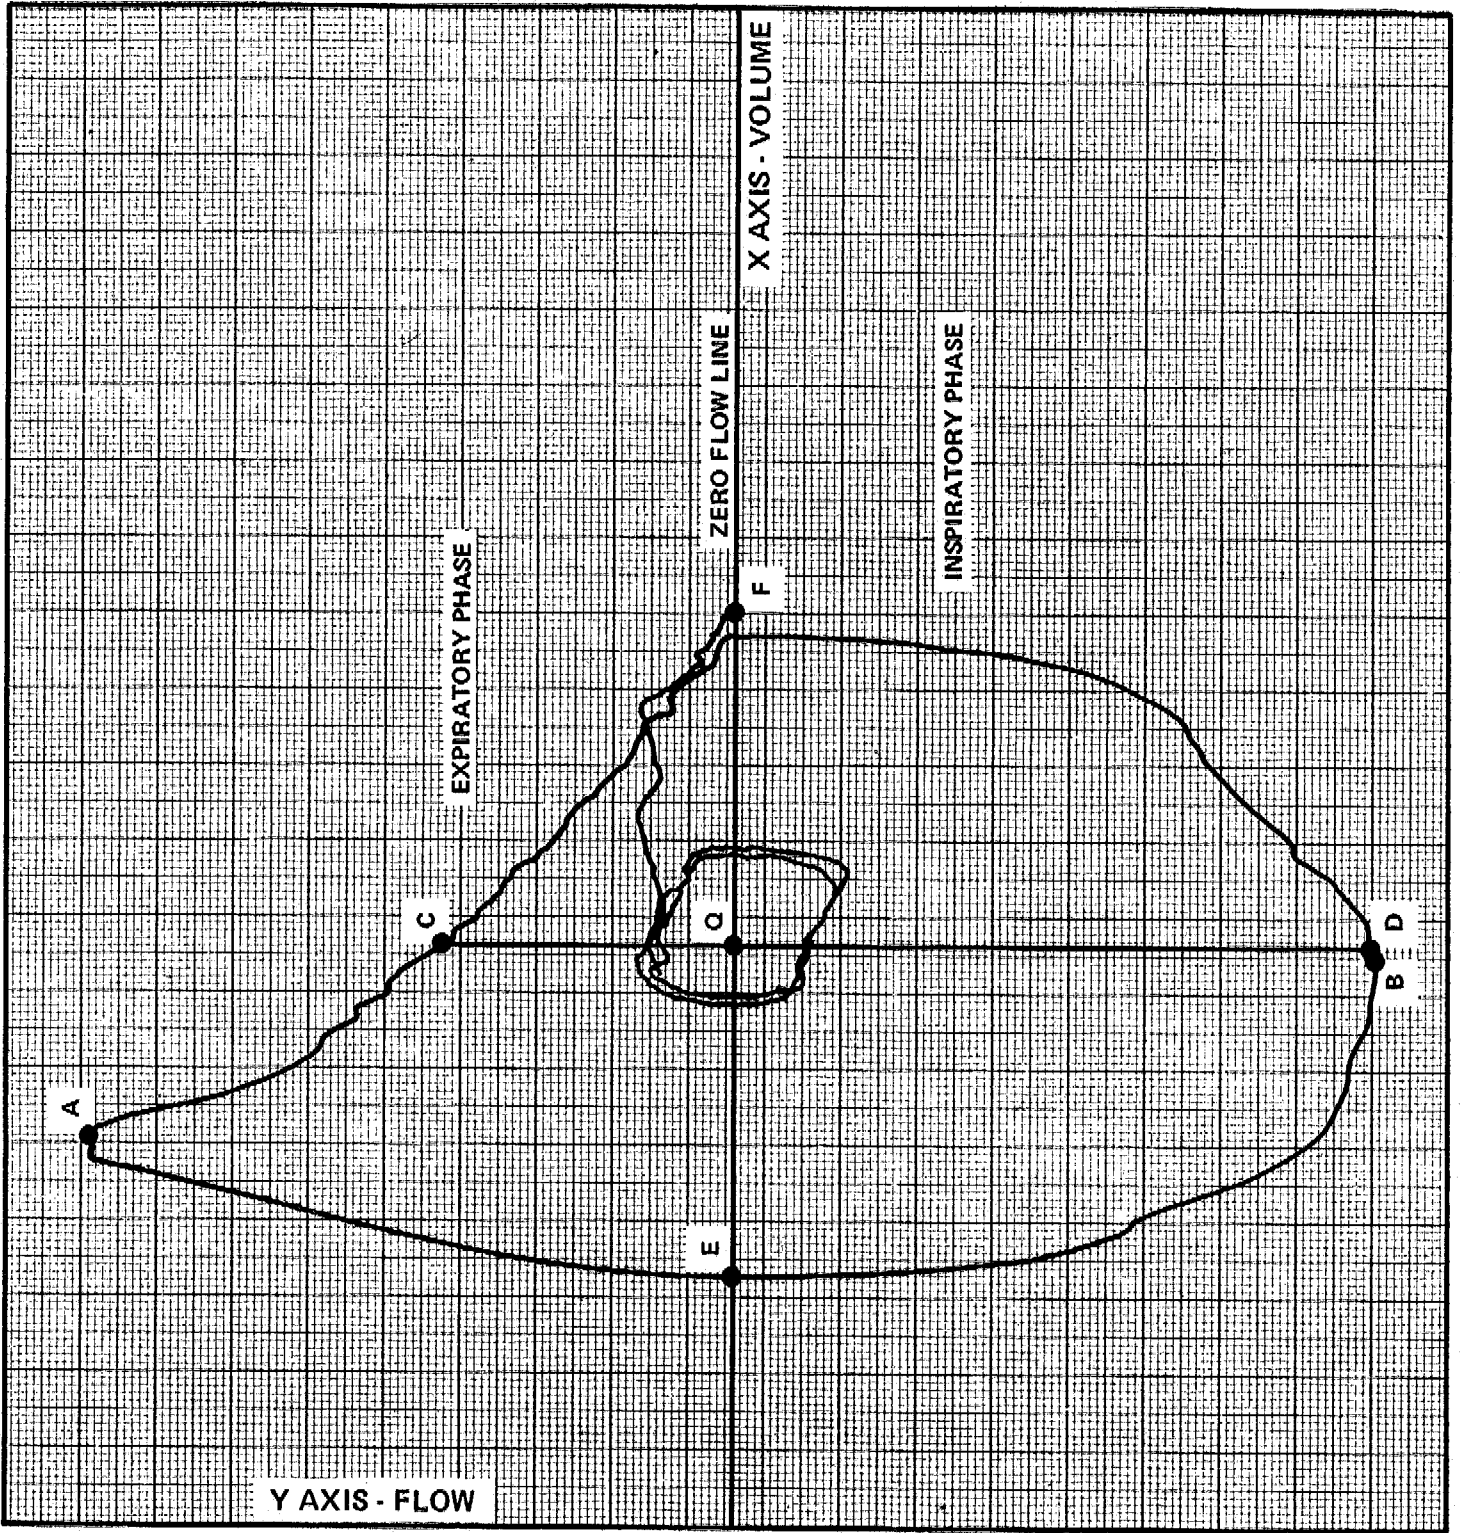

Figure 43 - Trace - Flow-Volume Loop Recorded on X-Y-T Recorder
G.4. When a flow-volume loop is recorded, the **X** and **Y** axis **POLARITY** switches can be set to either **+** or **-** depending upon the operator's preference. The sample flow-volume loop, shown in Figure 43, was recorded with both **POLARITY** switches set to **+**.
G.11. Have the patient expire slowly to **RV**, then have him inspire quickly to **TLC**. The patient then expires as hard and quickly as possible all the way back to **RV**. This completes the loop as shown in Figure 43 and the patient should now be removed from the mouthpiece. During the test, the operator should encourage the patient to obtain a maximum effort.
G.14. Figure 43 also shows where to establish points for the calculations.